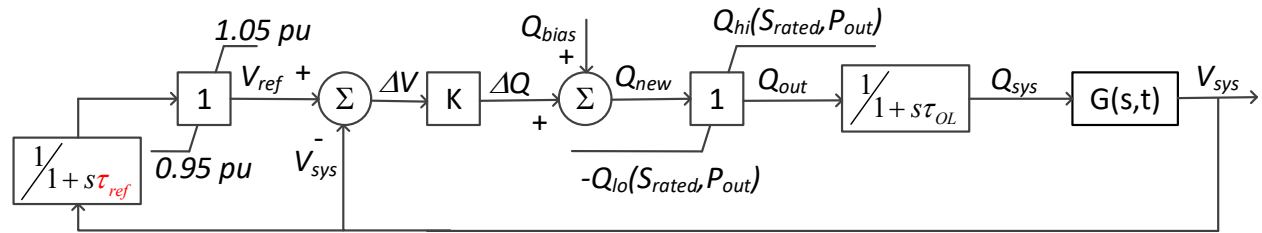

Figure 1: Control block diagram of the autonomously adjusting  $V_{ref}$  with time constant  $\tau_{ref}$ .
This is an alternative to the *InvControl* element for *PVSystem*. It is based on the autonomously adjusting reference voltage option from the latest version of Clause 5.3.3 (Voltage-reactive power mode) in IEEE Standard 1547 [1]. In Figure 1, the set-point or reference voltage,  $V_{ref}$ , is not a constant value but rather tracks the grid voltage,  $V_{sys}$ , with a time constant,  $\tau_{ref}$ , that is adjustable between 300s and 5000s.  $V_{ref}$  is still limited to the range 0.95 to 1.05 pu of the nominal voltage,  $V_N$ , as required in the standard. There is another time constant in Figure 1,  $\tau_{OL}$ , for the open-loop response time that is adjustable up to 90s.  $Q_{hi}$  and  $Q_{lo}$  are now defined to give preference to reactive power over real power [1].
- Slope – the gain,  $K$ , in Figure 1. The default value of 50 is usually stable, but higher than the maximum allowed value of 22 for Category B inverters [1].
- VregTau – the time constant,  $\tau_{ref}$ , in Figure 1. The default value of 300s is recommended.
- Tresponse – with reference to Figure 1, this is the time for the change in  $Q_{sys}$  to reach 90% of the commanded change in  $Q_{out}$ . Defaults to 0 for backward compatibility, but should otherwise be set to 10s for Category A inverters or 5s for Category B inverters.  $Tresponse = 2.3 \tau_{OL}$ . (The *InvControl* LPFtau attribute is similar, but defined for 95% response instead of 90% response.)
- Qbias – an optional steady-state dispatch of reactive power, indicated in Figure 1. In per-unit of each controlled *PVSystem* kva rating. Negative to absorb Q, positive to inject Q. Defaults to 0. If linked to an external reactive power dispatcher, this would be the signal input connection.